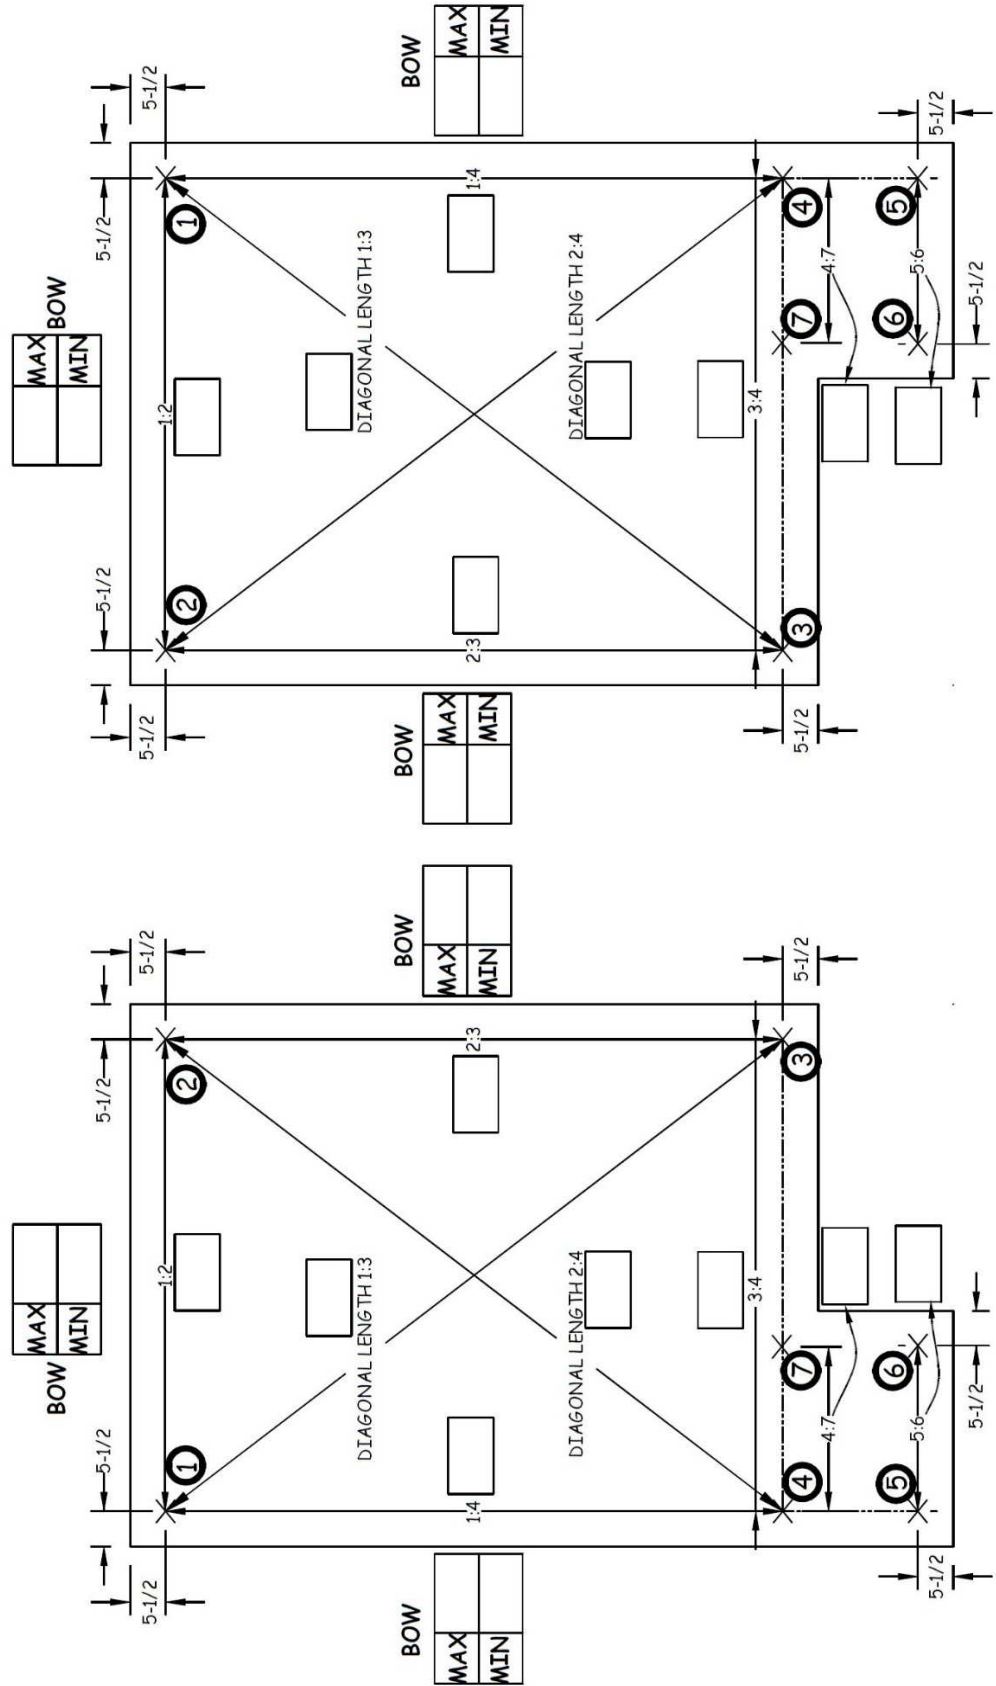

Figure 3-2. Wall Layout with Corner Porch Worksheet.
- a. Remove the Wall Layout with Corner Porch Worksheet (Figure 3-2 on the next page) from this manual. Record any measurements made in the following steps on this worksheet.